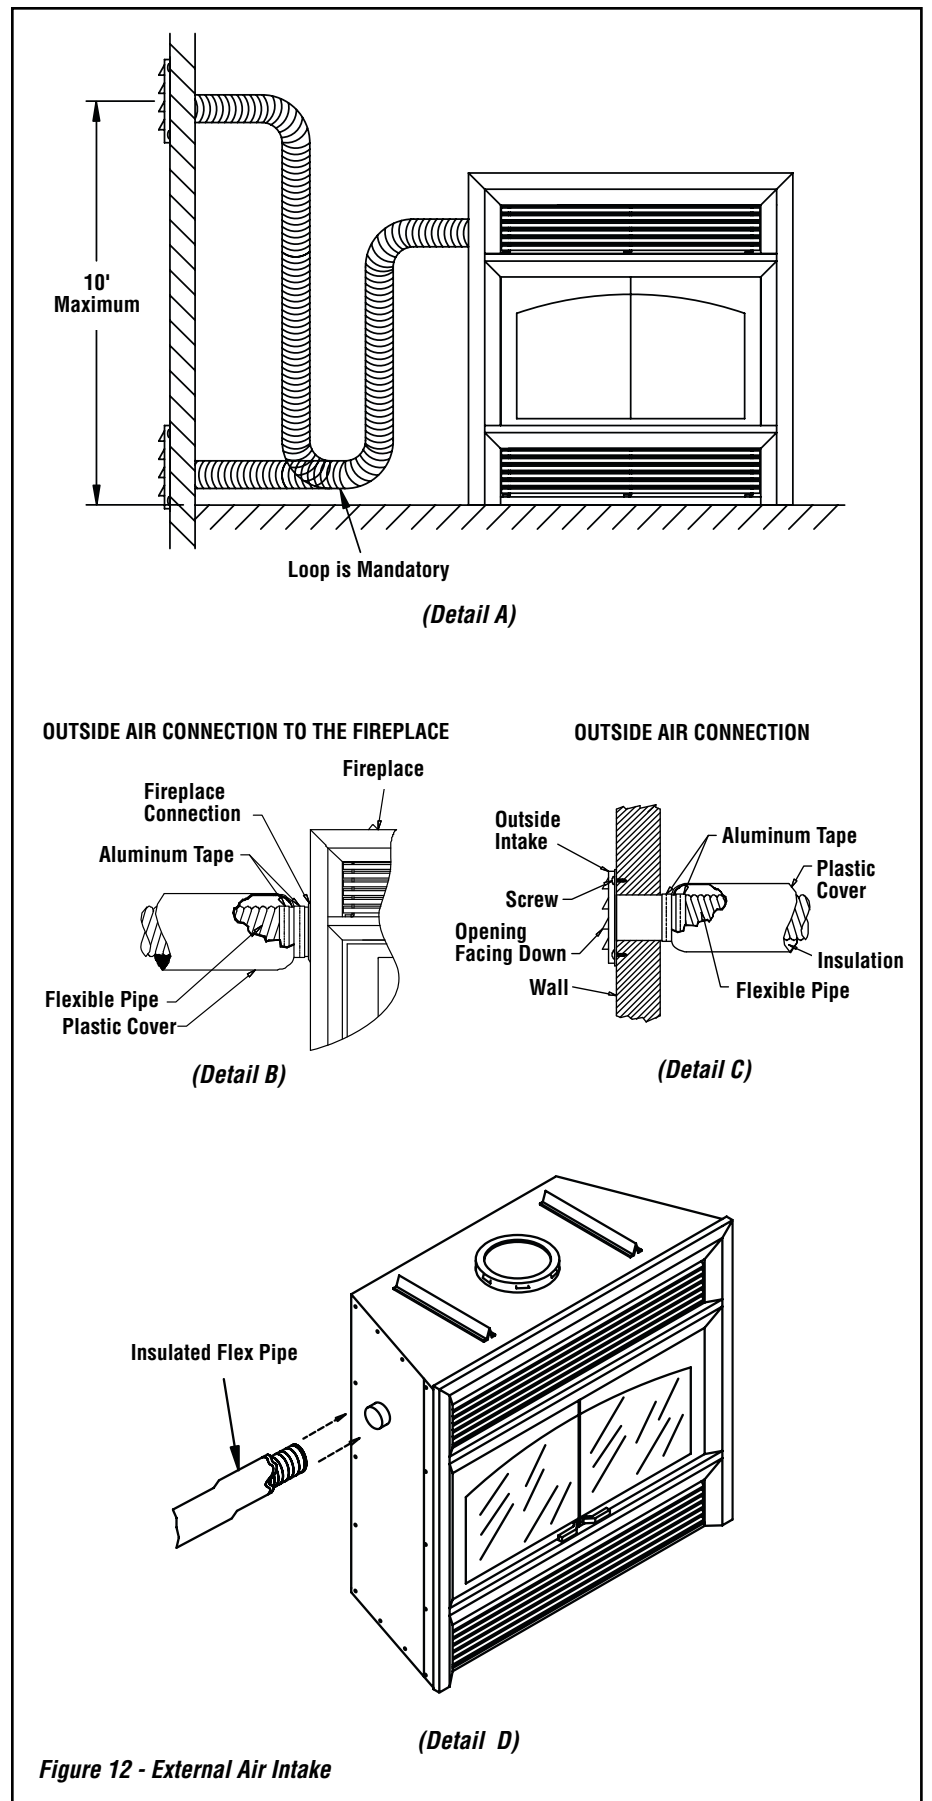

Figure 12 - External Air Intake
7. It is recommended to install the outside air register at floor level. However, if you must raise the air register above the fireplace level, you will have to make a loop to the floor with the flexible pipe to prevent from causing a draft in the outside air register (see **Figure 12 Detail A**).